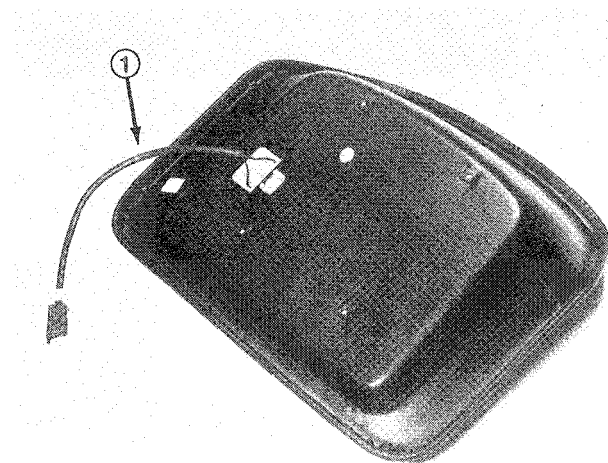

Figure 1
1. Slide seat switch into opening in seat and clip in place (Fig. 1).